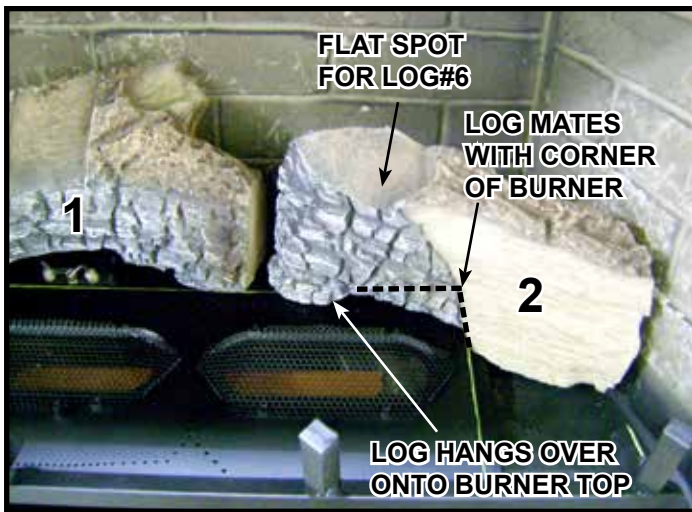

Figure 4. Log #2
**Log #2 (SRV2202-701):** See Figure 2 for additional references. Position Log #2 as shown in Figure 4. Mate Log #2 with the right corner of the burner as shown. Pull the log forward and to the left until it locks into position.